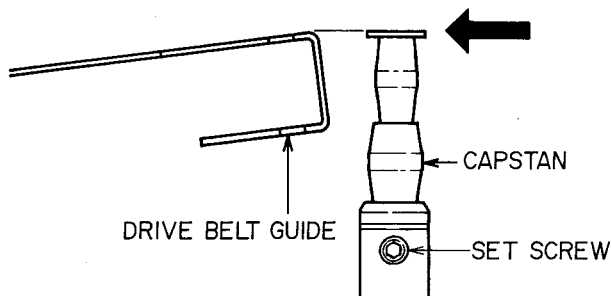

Fig. 1
- 3) Bring the Drive Belt Guide and Capstan to the same height, than tighten set screw. (See Fig. 1)